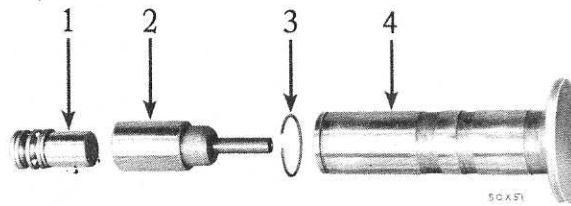

Fig. 59—Hydraulic Valve Tappet (Disassembled View)
The hydraulic valve tappet (Fig. 59) is a simple, positive-acting device which, through the medium of oil from the engine lubricating system, automatically adjusts its own length during each revolution of the camshaft to compensate for expansion or contraction in the valve train (cam, tappets and valve stems).
- (1) *On a CLEAN bench*, remove the retaining rings (3, Fig. 59) from the tappets, and remove the tappets complete from the guides. Insert each tappet in a suitable rack so it may be reinstalled in its original position.
- (2) Taking each tappet in turn, remove the cylinder (2, Fig. 59) by drawing it out of the tappet body.
- (3) Remove the plunger (1, Fig. 59) by pulling outward and twisting in a clockwise direction. This will detach the spring from the recess in the cylinder body.
- (4) Thoroughly wash the parts in CLEAN solvent and dry with compressed air.
- (5) Examine parts for wear at the following points: